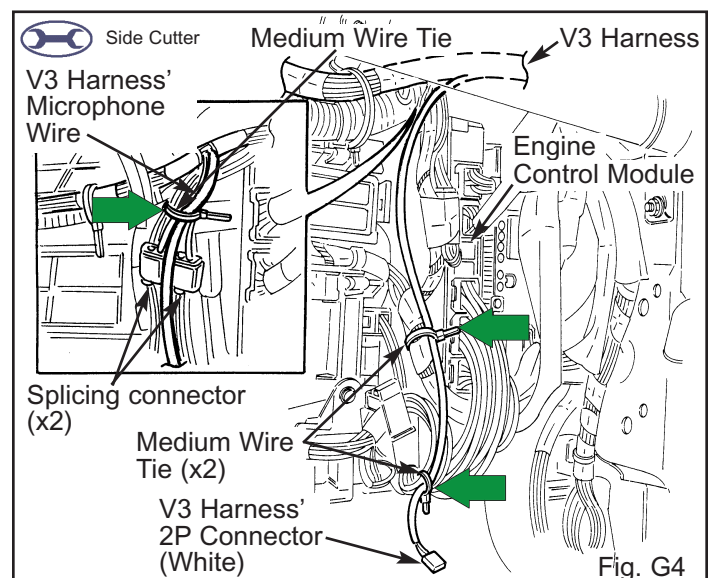

Fig. G4
7. Route the V3 harness' white 2P connector downward toward the glove box area. (Fig. G4)
8. Bundle and secure the V3 harness, the piezo wires, the V3 Harness' WHITE/BLACK and RED wires, and microphone wire to the vehicle harness with three medium wire ties. (Fig. G4)